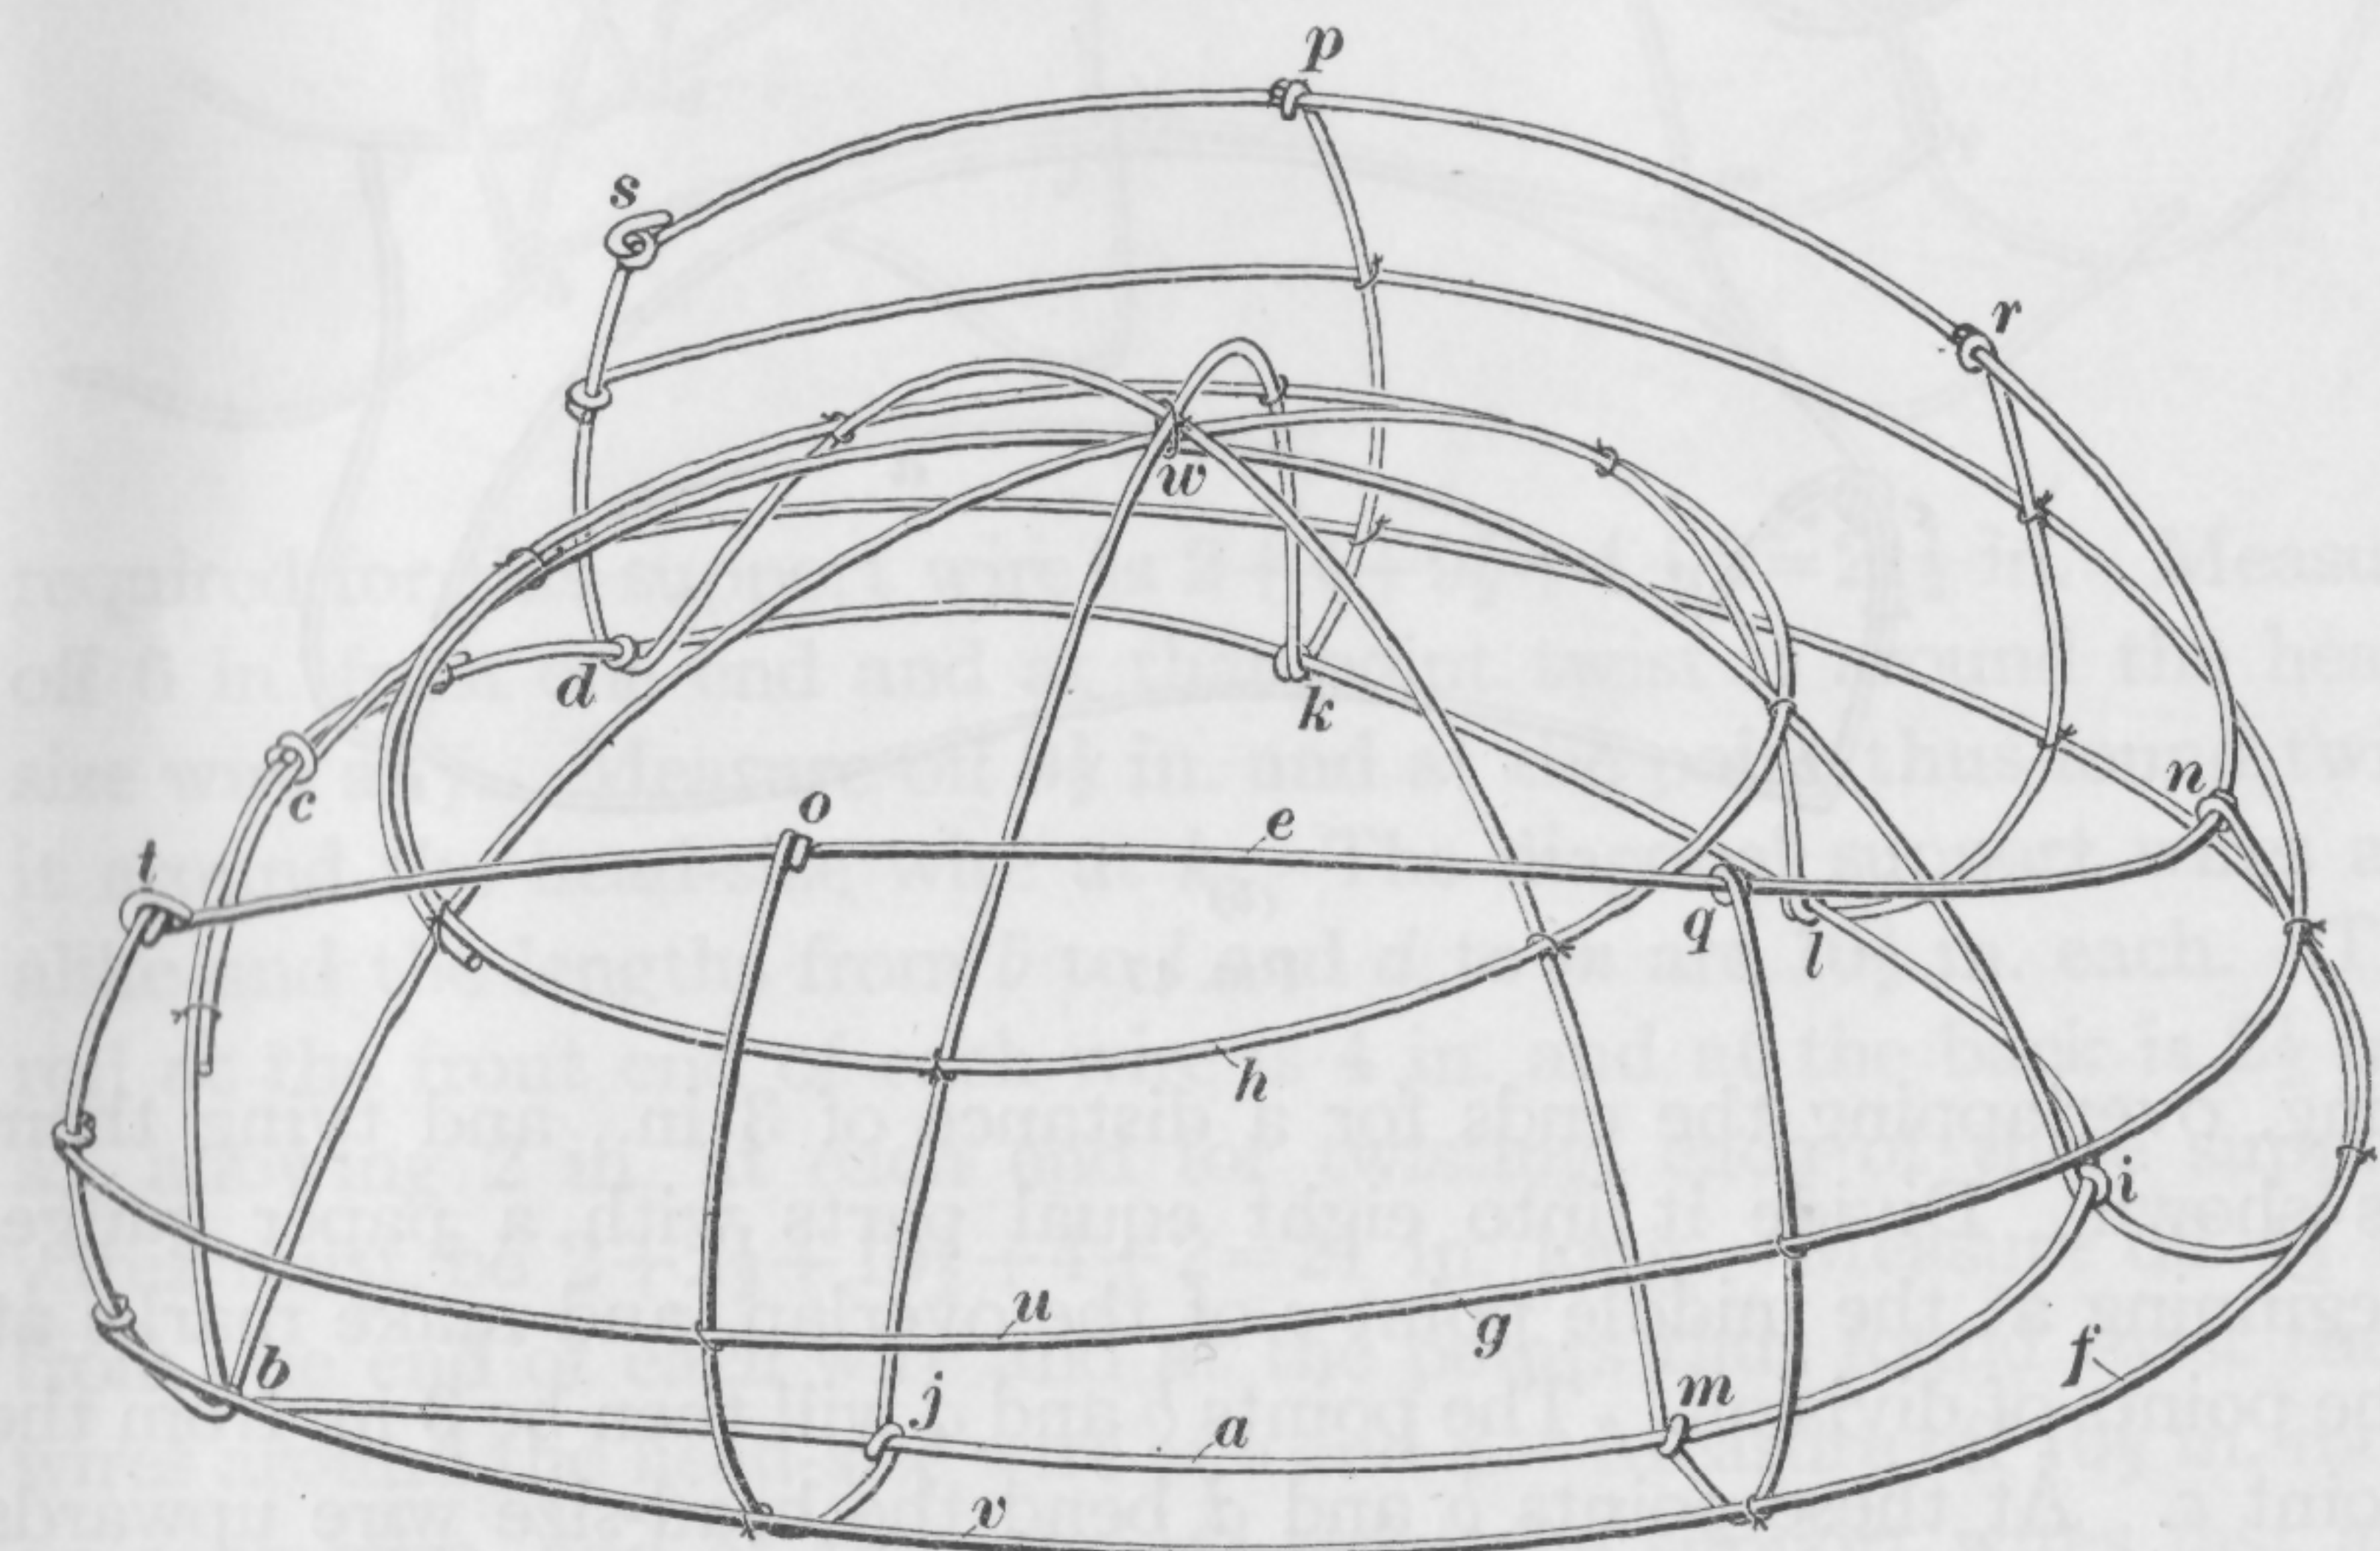
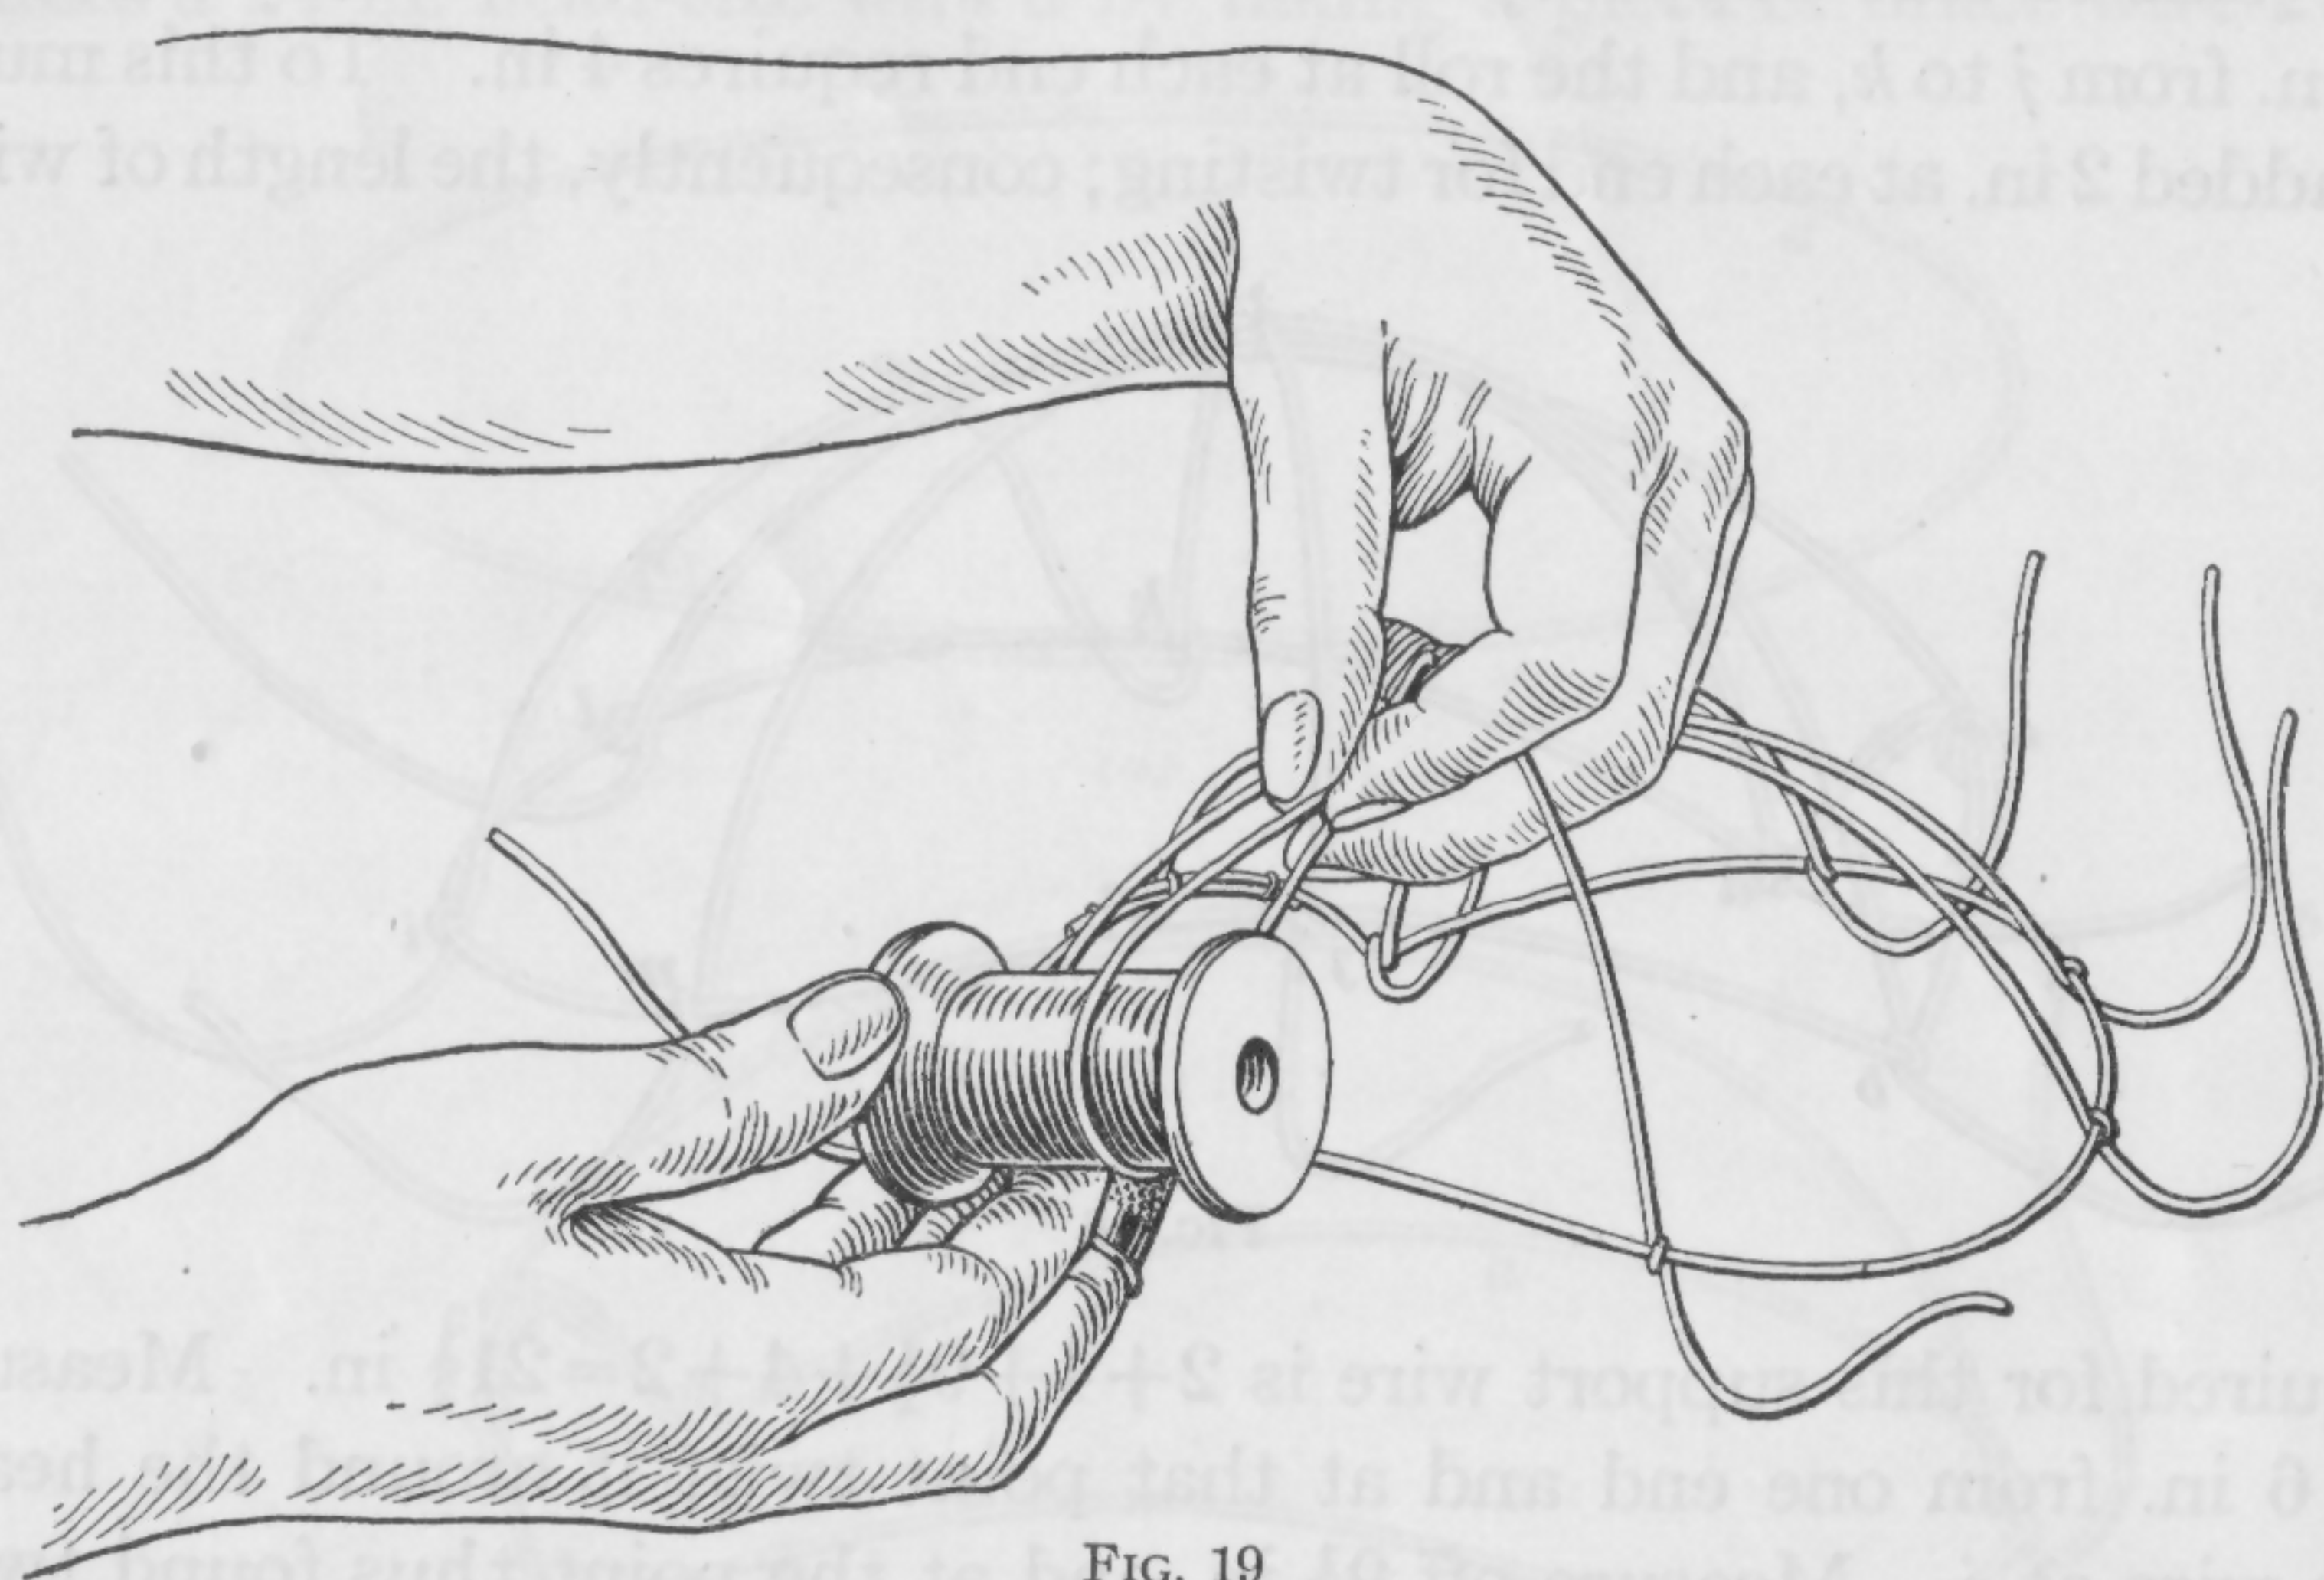

FIG. 16
FIG. 19
29. An example of one-piece construction is the bonnet frame shown completed in Fig. 16. It consists of four support wires that
long, overlapping the ends for a distance of 3 in., and tying them as shown. Divide it into eight equal parts with a paper gauge, beginning at the middle point  $c$  of the overlap, and make marks at the points of division. The points  $b$  and  $d$  will then be 3 in. from the point  $c$ . At these points  $b$  and  $d$  bend the head-size wire upwards and forwards, as shown in (b), thus forming the arch. This illustration, as well as those that show the later stages of the construction, are lettered the same as the corresponding parts in the finished frame, Fig. 16, and so the steps in the construction may easily be followed in the illustration of the completed frame, as well. The parts of the
A simple method of doing this is shown in Fig. 19. Take a spool of thread from which about half of the thread has been used, and bend the ends of the support wires up around it, as shown. These curves will probably be too small, but it is a simple matter to open them out. Next, lay off the lengths of the ends of the support wires, measured from the head-size wire to the edge wire. At the front, Fig. 16, mark the point *n* by a bend or with a pencil, at a distance of  $3\frac{1}{2}$  in. from *i*; on the side-to-side wire mark the points *o* and *p* so that *j o* and *k p* measure 4 in. each; then mark the points *q* and *r*, making *m q* and *l r*  $3\frac{3}{4}$  in. each; and finally make *d s* and *b t* each  $2\frac{1}{2}$  in. and mark the points *s* and *t*. Now fasten the edge wire *e*
**33.** The next step in the construction of the bonnet frame is to add the brace wire to the brim and crown. Each of the brace wires *u* and *v*, Fig. 16, is  $22\frac{1}{2}$  in. long, not including the amounts required at the ends to make the twists. They should be fastened to the support wires with tie wires and spaced at about equal